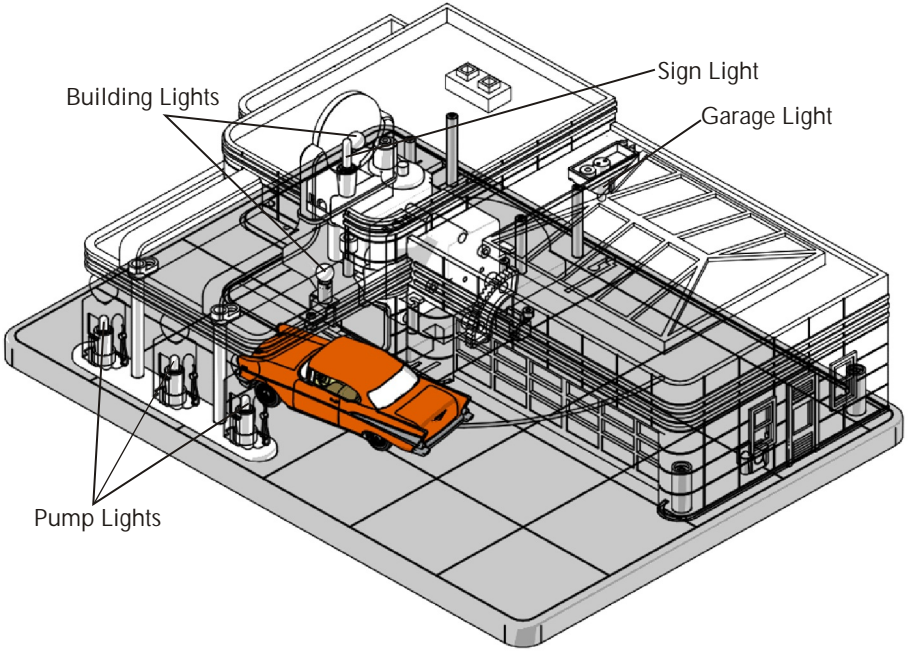

Fig 4. Locations of the interior bulbs of the Gas Station
**Sign Light:** Pop the circular part of the sign off to access the bulb. To replace the bulb, simply pull it out and push a new one in, like Christmas tree lights (See Fig. 4).
**Pump Lights:** Pop the gas pump off the base to access the bulb. To replace the bulb, pull it out and push a new one in, like the sign light (See Fig. 4).
**Building Lights:** Twist the bulbs counterclockwise then pull to remove them. Push in and twist clockwise to replace the bulb (See Fig. 4).
**Garage Light:** Pull the bulb out and push the new one in to replace it (See Fig. 4).